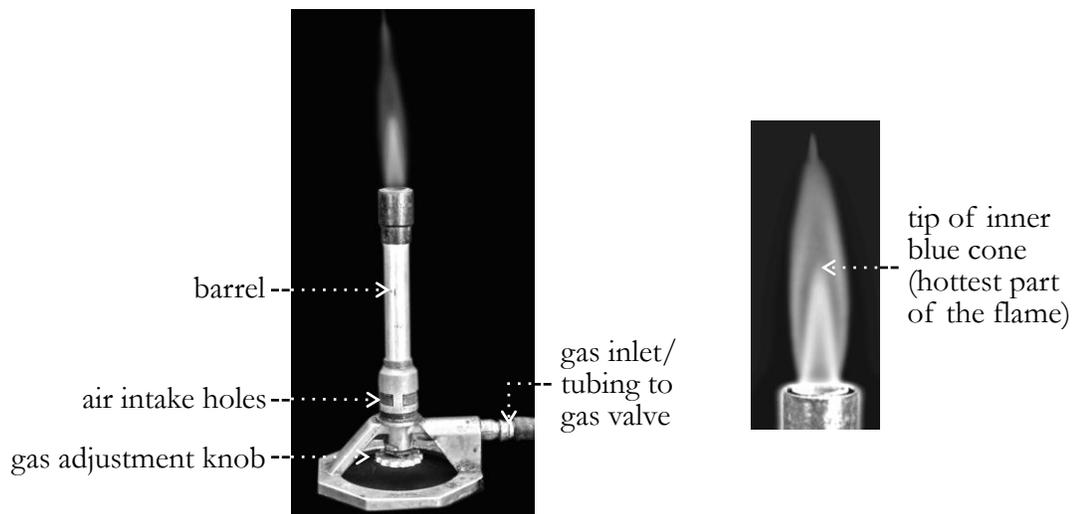
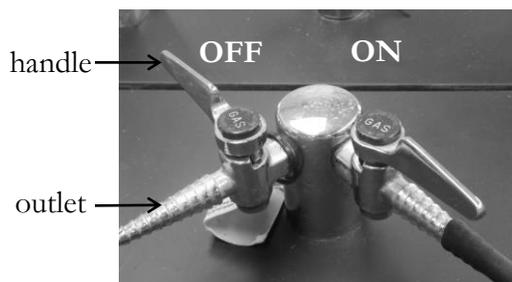

Figure 1. The Bunsen burner
Figure 2. The gas valve
1. Figures 1 and 2 show a Bunsen burner and a bench gas valve, respectively. Connect the rubber tubing from the gas inlet of the Bunsen burner to the outlet of the bench gas valve. Make sure the gas valve is off, with the handle of the valve perpendicular to the outlet, as shown in the gas valve on the left in Figure 2. The gas valve should always be off when the burner is not lighted.
3. Turn the bench gas valve on by rotating the handle so it is parallel to the outlet as shown in the gas valve on the right in Figure 2.
6. Rotate the barrel to open the air intake holes to intensify the flame and change its color to blue. Continue to increase the air flow until you see a second blue cone appears at the center of the flame. The hottest part of the flame is the tip of the inner blue cone (see Figure 1).